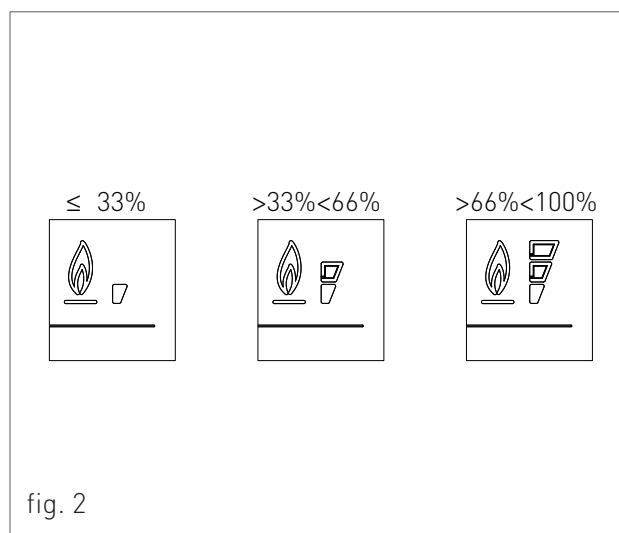

fig. 2
10. FLAME PRESENT SIGNALLING / IT ALSO INDICATES, ON 3 PERCENTAGE LEVELS, THE MODULATING POWER LEVEL OF THE BOILER (fig.2)